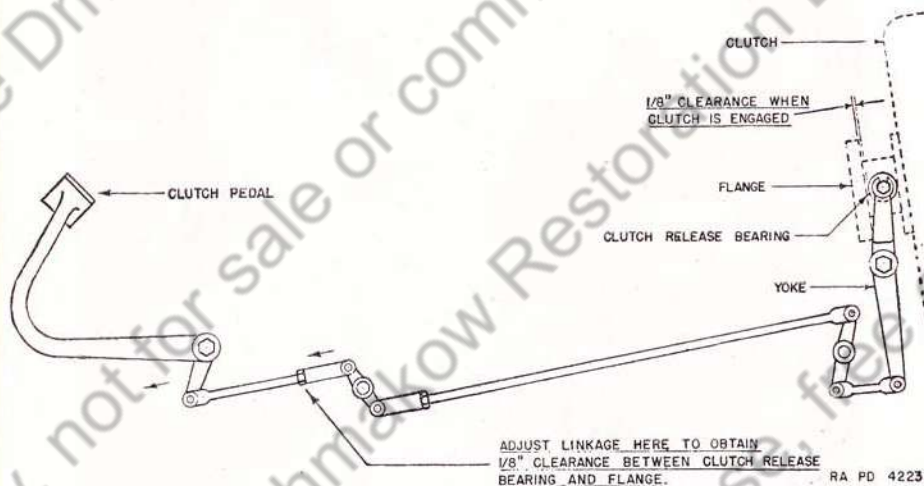

FIGURE 40.—Adjustment of clutch. RA PD 4225
*b.* Correct adjustment of the clutch pedal is made by lengthening the adjusting link (fig. 40) so that  $\frac{1}{8}$ -inch clearance exists between the clutch release bearing and flange when the clutch is engaged.
**75. Clutch release.**—*a.* The clutch is provided with a release device which holds the clutch in the “out” position (disengaged). The foot pedal and levers shown in figure 40 are part of the release mechanism. Release bearings should always be inspected when the engine is removed.